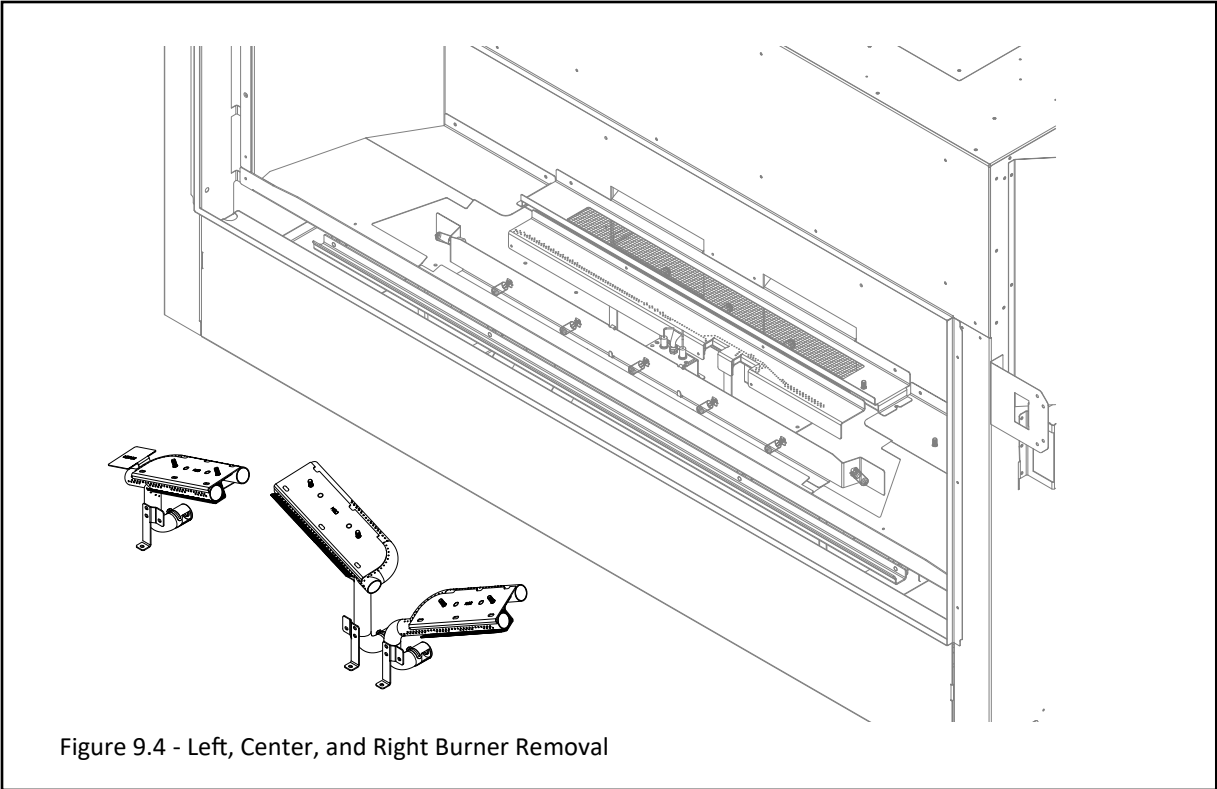

Figure 9.4 - Left, Center, and Right Burner Removal
1. Remove and retain the (6) screws for the left, center, and right burners. Remove burners. See Figure 9.4.